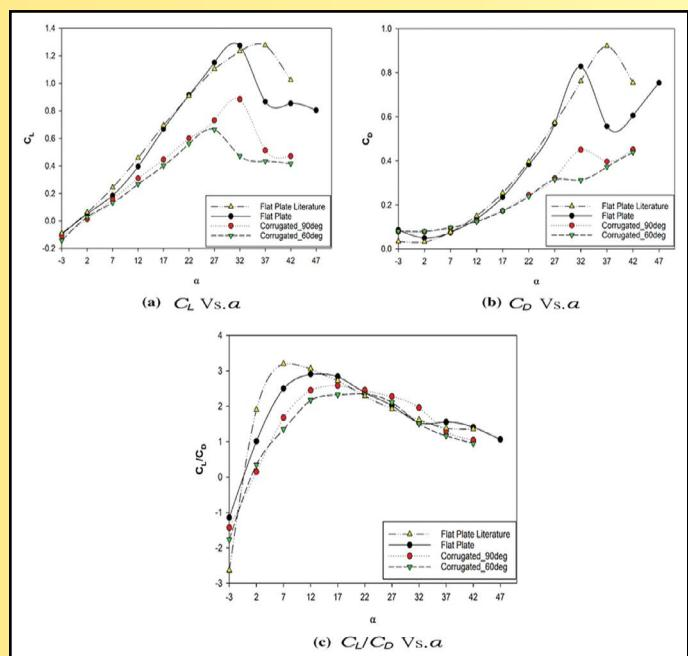
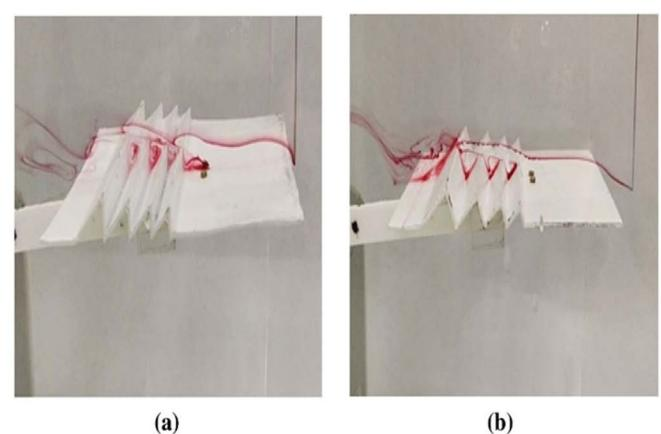
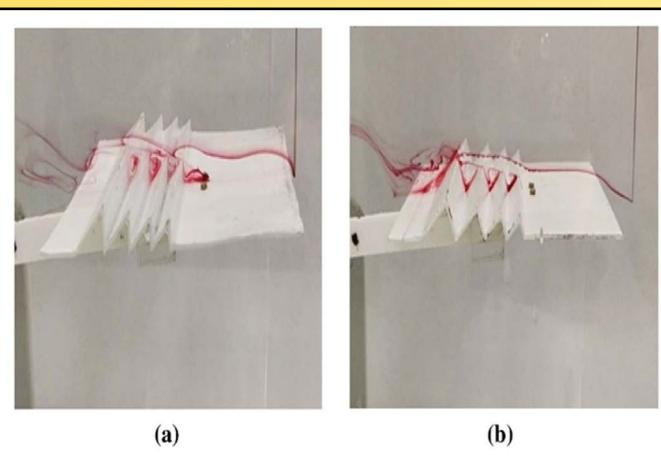

Fig. 10 60° and 90° corrugations at TE
Fig. 11 Trapped vortices in corrugated TE at  $\alpha = 5^\circ$ , a  $60^\circ$ , b  $90^\circ$
Fig. 12 Leading edge vortex (LEV) in corrugated TE at  $\alpha = 10^\circ$ , a  $60^\circ$ , b  $90^\circ$
corrugations at the trailing edge (TE), and then plots were obtained for CL, CD and CL/CD as shown in Fig 10. It was observed that CL increases more in comparison to CL when corrugations were employed at the LE, this improvement is due to the fact that contribution from leading edge separation bubble and wing tip vortices is again available but not as prominent as in case of flat plate. Hence, though CL is higher in comparison to LE corrugations but still lesser than flat plate geometry. Also, in Fig. 10c it is seen that though aerodynamic efficiency in terms of CL/CD for 90° corrugation is less than flat plate, but it performs better than flat plate at higher angles of attack. This may be due the fact that corrugations assist in flow to remain attached even at higher angles of attack, the flow becomes turbulent on striking the first peak, as well as the presence of trapped vortices as shown in Fig. 11 creates regions of negative pressure thus keeping the flow attached. Also corrugations at TE perform better than corrugations placed towards LE, this is due the fact that contribution towards lift enhancement from leading edge vortex (LEV) and LE separation bubble as shown in Fig. 12 is available which was suppressed in case of corrugations towards LE , this indicates that presence of leading edge separation bubble and wingtip vortex induced drag when corrugations are placed at the TE. In Fig. 10, CL/CD against  $\alpha$  for TE corrugation geometry it was observed that CL/CD for TE corrugated geometry is much higher than LE corrugated geometry which is due to higher CL